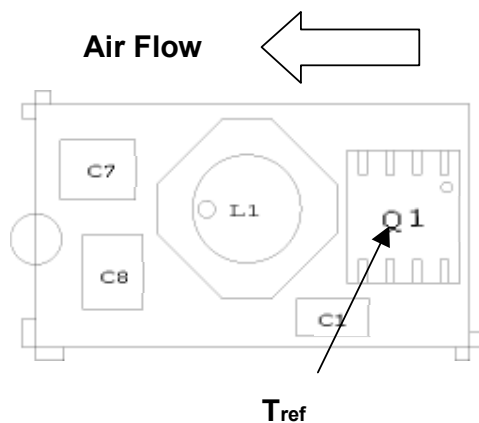
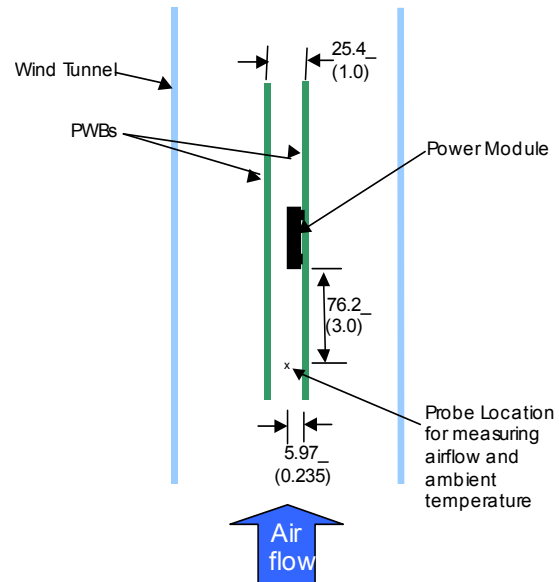

Figure 31. T_{ref} Temperature measurement location.
Figure 32. Thermal Test Set-up.
To provide over temperature protection in a fault condition, the unit relies upon the thermal protection feature of the controller IC. The unit will shutdown if the thermal reference point T_{ref2} , (see Figure 31) exceeds 140°C (typical), but the thermal shutdown is not intended as a guarantee that the unit will survive temperatures beyond its rating. The module will automatically restarts after it cools down.
Considerations include ambient temperature, airflow, module power dissipation, and the need for increased reliability. A reduction in the operating temperature of the module will result in an increase in reliability. The thermal data presented here is based on physical measurements taken in a wind tunnel. The test set-up is shown in Figure 32. Note that the airflow is parallel to the long axis of the module as shown in figure 31. The derating data applies to airflow in either direction of the module's long axis.
The thermal reference point, T_{ref} used in the specifications is shown in Figure 32. For reliable operation this temperature should not exceed 115°C. The output power of the module should not exceed the rated power of the module ($V_{o,set} \times I_{o,max}$).